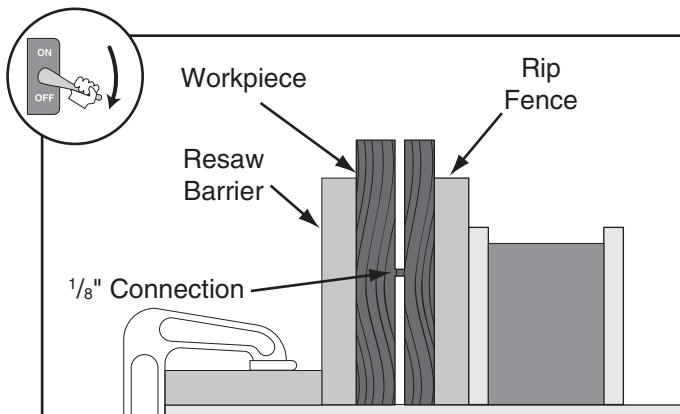

Figure 124. Ideal completed resaw cut.
4. Place workpiece against rip fence and slide resaw barrier against workpiece (see **Figure 124**).
IMPORTANT: Ideal resaw cut will leave approximately $\frac{1}{8}$ " connection when resawing is complete (see **Figure 124**). Leaving a $\frac{1}{8}$ " connection will reduce risk of kickback.